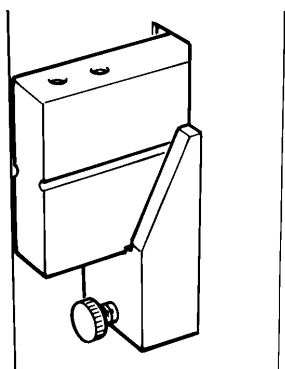

Figure 9 The sample holder in the background position
3. Slide the sample holder into the accessory and push as far as the first click (Figure 9).